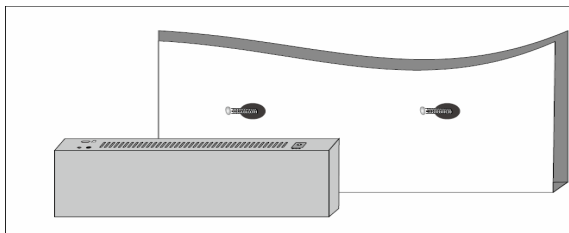

Figure 2-3 Wall Mount Installation
Step 1: Drill 2 holes with a diameter of 5mm on the wall. The distance between the 2 holes is 110mm, and the line through them should keep horizontal, as illustrated in Figure 2-3.